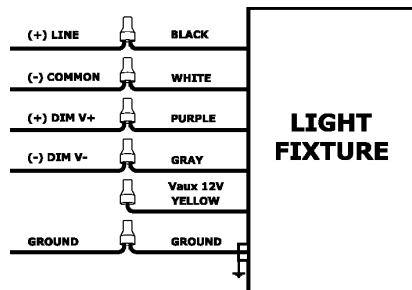

Fig. 5
Universal voltage driver permits operation at 120V through 277V, 50 or 60 Hz. For 0-10V dimming, follow the wiring directions in **Fig. 5**.
1. Check that the line voltage at the fixture is correct. Refer to wiring directions in **Fig.5**.